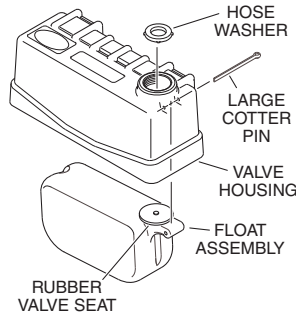

Figure 1
- Position the float assembly inside the valve housing and slide the large 2-1/4" cotter pin through the housing and the float assembly (see Figure 1). Spread the ends of the large cotter pin open slightly with pliers. When properly installed, the float assembly should pivot freely on the cotter pin inside the valve housing.